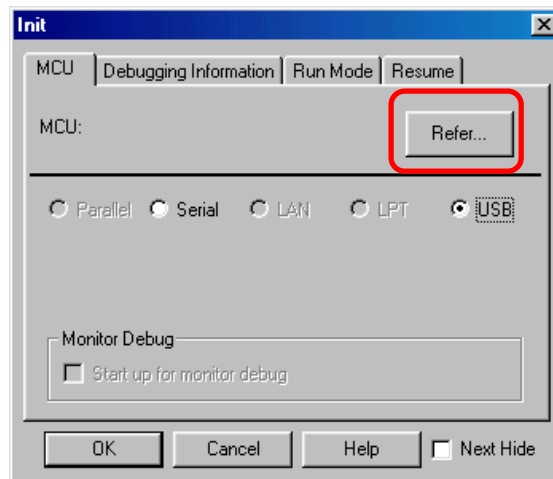

Figure 5-2 Init screen-1
- 1) From the Start menu, choose Programs -- RENESAS-TOOLS -- KD30 V.\*\* Release\* -- KD30 to start the KD. When the KD starts, the screen shown in Figure 5-2 appears. If the screen appears, click the <Refer...> button and choose MCU File.